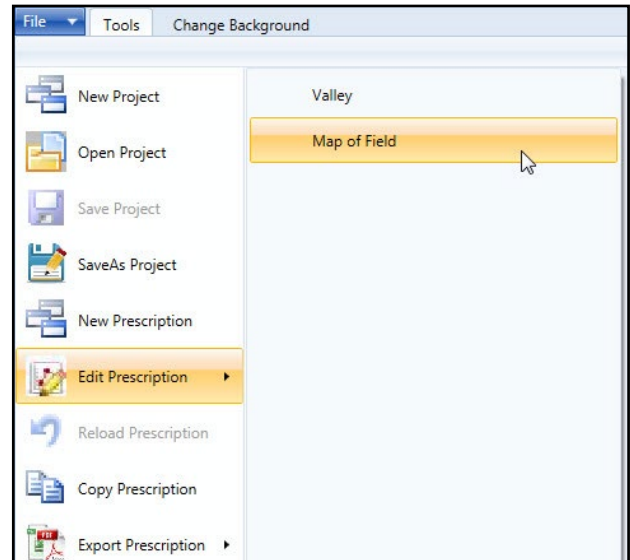

Figure 35-1 VRI Drop-down Menu Edit Prescription
1. Select **Edit Prescription** in the VRI drop-down menu. See Figure 35-1.
2. Select the name of the prescription in the right column. See Figure 35-1.